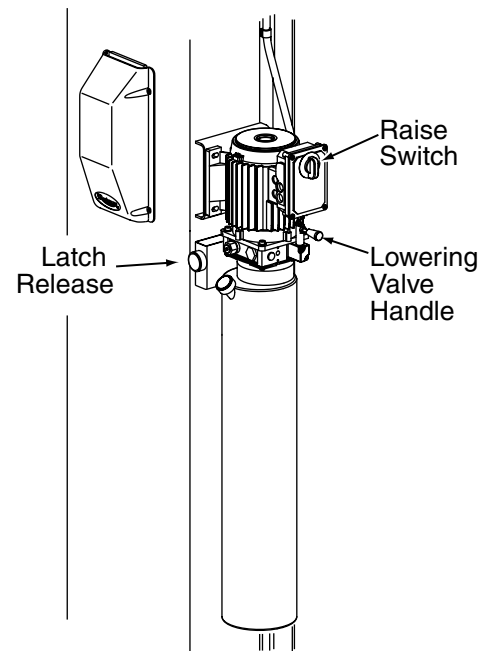

Fig. 3
- A. Push RAISE switch on power unit, Fig. 3.